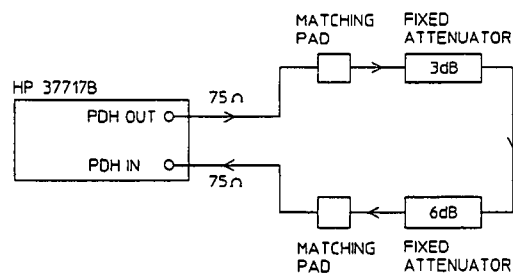

Figure 3-24. SPDH Receiver Monitor Input
2. Connect the equipment as shown in Figure 3-24 .